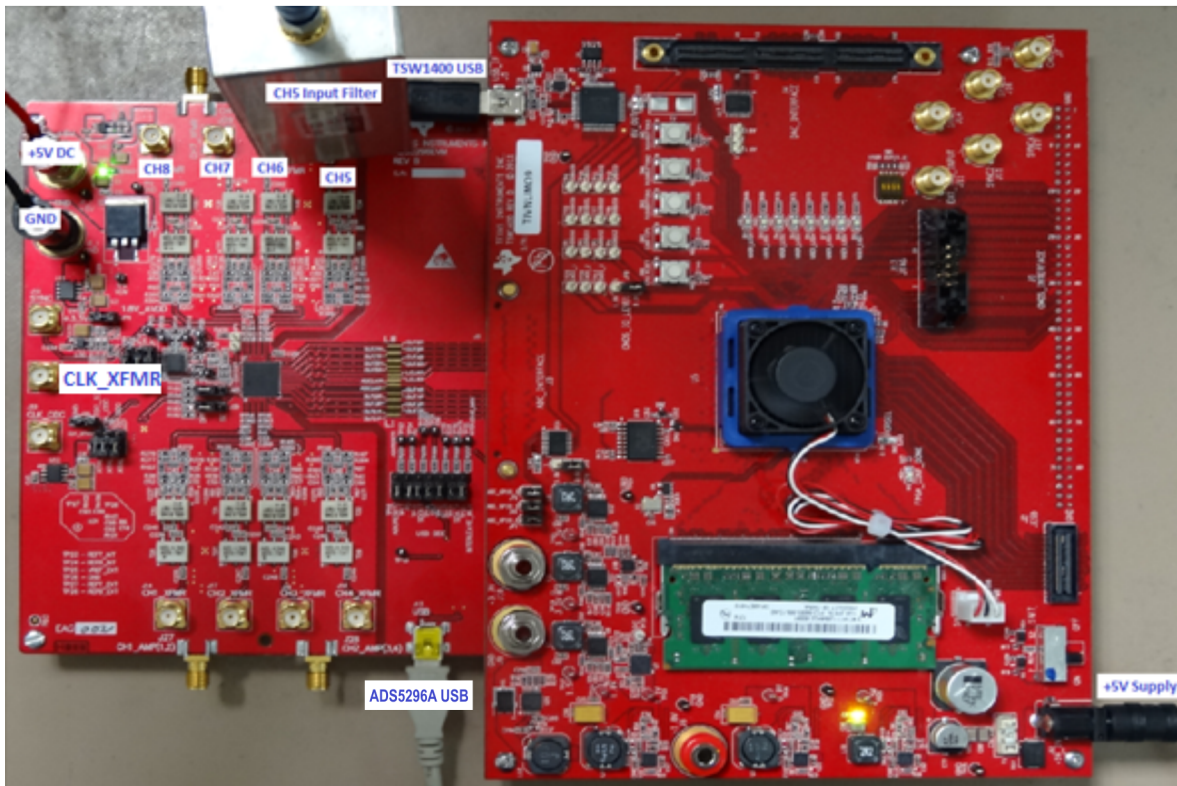

Figure 38. Octal Non-interleaving Mode Hardware Setup
2. With the setup established in Figure 37 and Figure 38, perform the following steps:
- (b) Enable the signal generator providing the input signal to SMA **J15** labeled **CH5_XFMR** (+15 dbm, 10 MHz). For high-performance results the instrument should have low phase noise and low harmonic distortion. In addition, a filter is recommended on the input as shown in Figure 38.